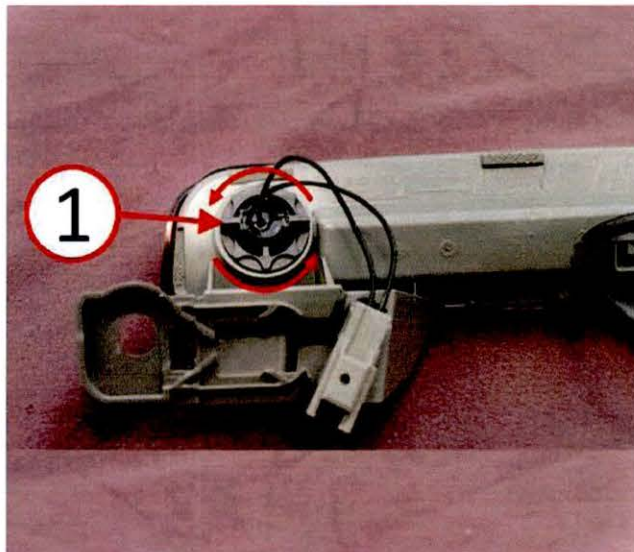

Fig. 3 Passive Entry Switch Removal
4. Remove the passive entry switch from the CHMSL housing. Refer to the detailed removal procedures available in DealerCONNECT>TechCONNECT> under: Service Info> 08 - Electrical> 8N - Power Systems> Power Locks> SWITCH, Deck Lid Release> Removal (Fig. 3).